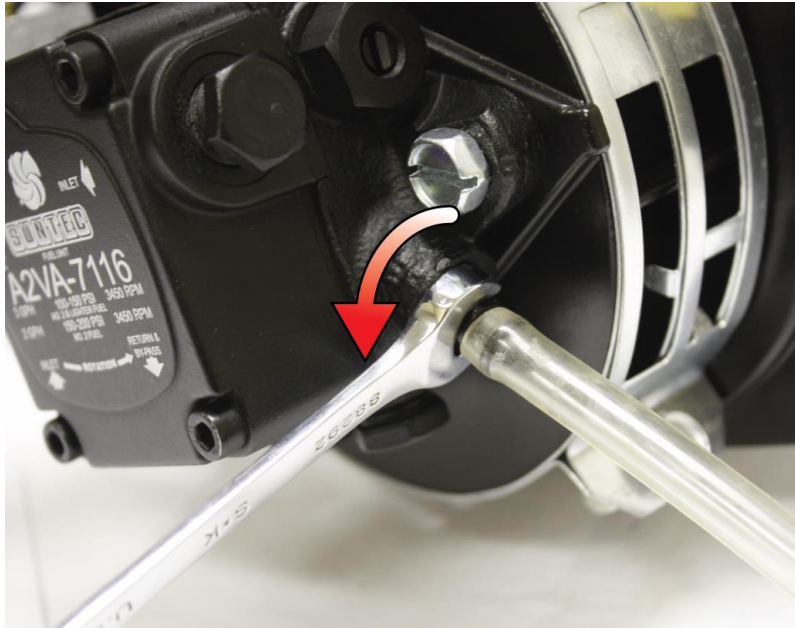

Figure 24– Bleeder valve adjustment
2. With the burner running, use a 3/8 inch wrench to open the bleeder valve about one-half turn (Figure 24). Allow oil to drain into the container until a steady, clear bubble free oil stream is noticed. Close the bleeder plug.